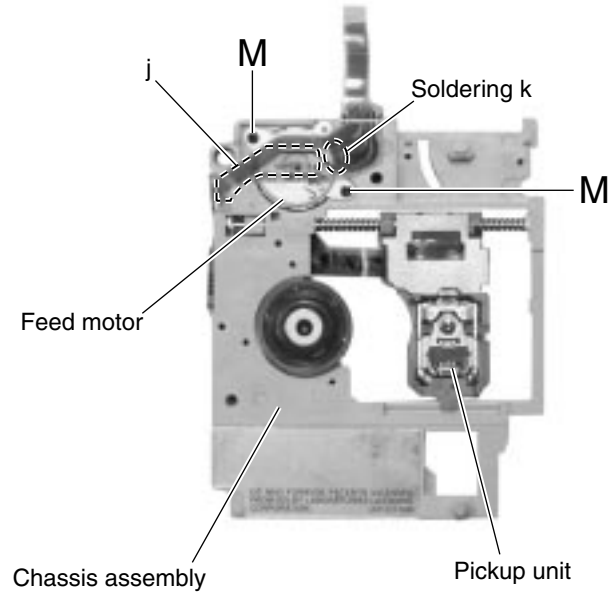

Fig.14
■ **Removing the feed motor (See Fig.14)**